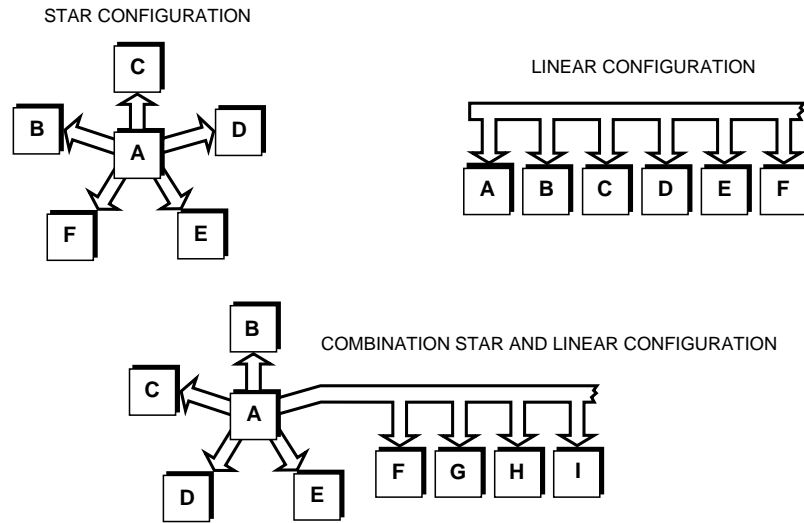

Figure 1-2. GPIB devices may be connected in star, linear, or combination star/linear configurations
- Devices may be connected in a star or linear configuration, or a combination of star and linear configuration (see Figure 1-2).